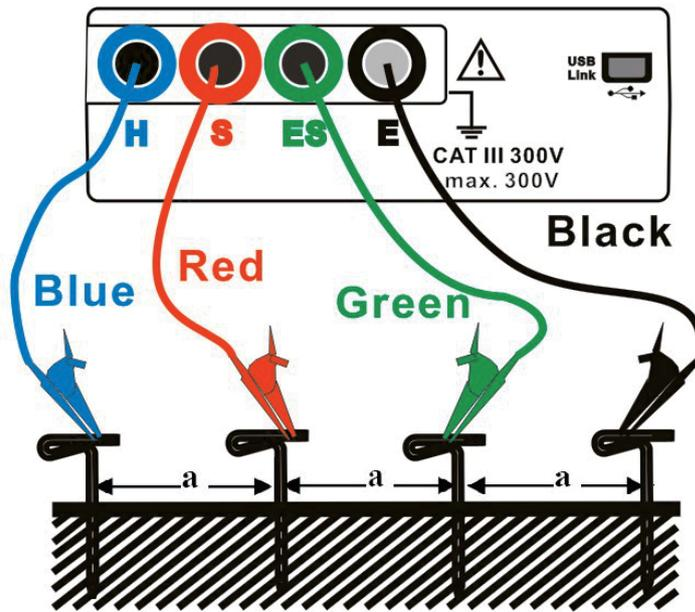

Figure 6. Earthing 4 Wires for Measuring Soil Resistance Coefficient
- ☞ 3. Connect 4 crocodile clamps according to Figure 6.